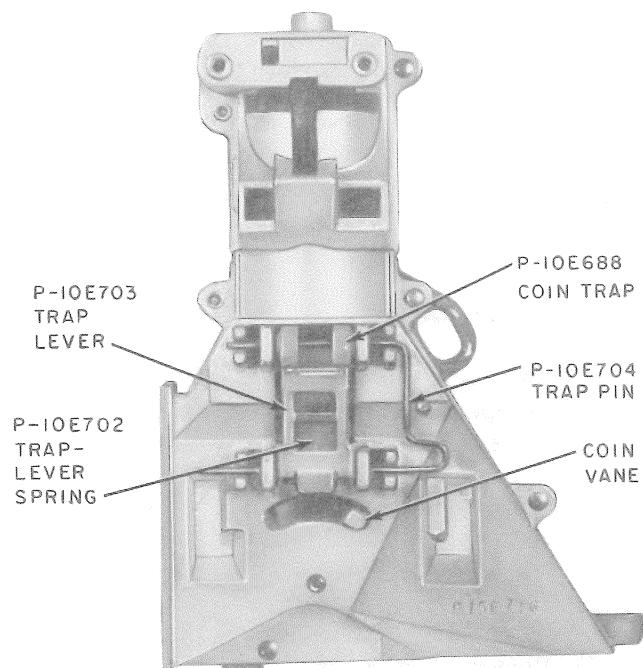

Fig. 2—Coin Trap and Trap-Lever Assembly
(2) Remove trap pin by sliding vertical portion over boss on front of hopper and sliding to the right.
(3) Turn coin trap sideways and remove through opening. If P-10E702 trap lever spring (Fig. 2) exists, it can be removed from trap lever and discarded or left in place if desired.